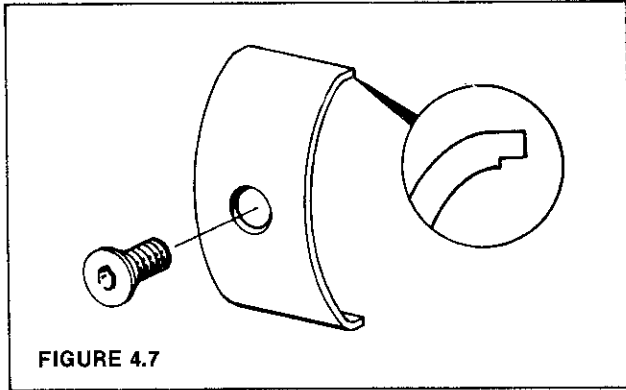

FIGURE 4.7
7. Leaf Spring and Screw - Check for excessive wear at points where the spring contacts the radii on the rotor and along the steps that retain the roller shoes (Figure 4.7). Check the adjusting screw for tightness in the rotor.